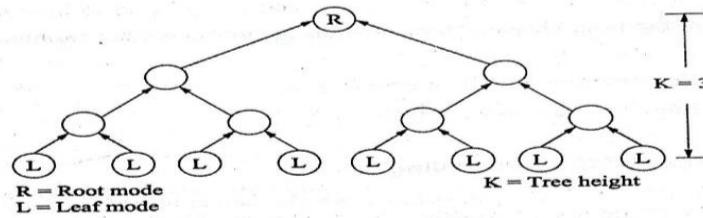

Figure 2.41
1	<p>Briefly explain the different schemes used to generate a solid model. N/D'15 (or) Explain in detail B-rep solid modelling approach. BTL5 - N/D'16, (13 marks)</p> <p>A representation scheme is defining as a relation which maps a valid point set into a valid model. For example, a constructive solid geometry (CSG) scheme maps the valid primitive into the valid solid via Boolean operations. It possesses the following properties,</p> <ul style="list-style-type: none"> <li>• It is closed regular set. There should not be any dangling portions.</li> <li>• It is a semi - analytic set. It does not oscillate infinitely fast anywhere in the set.</li> </ul> <p>Out of which, the following two basic approaches are important from our subject point of view.</p> <p>(1) Constructive solid geometry (CSG) (2) Boundary representation (B - rep)</p> <p>1. Constructive solid geometry (CSG):</p> <p>Constructive solid geometry (CSG) is one of the most popular methods of representing and building complex solids. The type of Boolean operations is used in CSG are Union (U), difference (-), and intersection (<math>\cap</math>).</p> <p>Simple Boolean operations have been already described in earlier topics of this chapter. The data representation of CSG objects is represented by a binary tree. Directed graph scheme is used to store the model in the data structure.</p> <p>The general form of the tree – type data structure used in CSG approach is shown in figure 2.41. Any node may have one parent node and two child node.</p> <p>A balanced tree can be defined as a tree whose left and right subtrees have almost an equal number of nodes. The creation of balanced or an unbalanced tree is entirely dependent on the user and it is related to how the primitives are combined.</p>